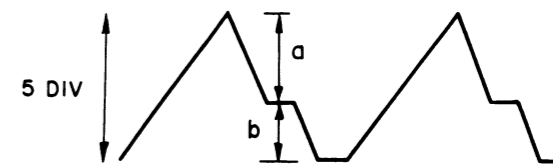

Fig. 11-5 Waveform
3. When a waveform like that shown in Fig. 11-5 is obtained, vary oscilloscope gain until a sawtooth wave with 5 div peak-to-peak is obtained. Then, referring to Fig. 11-5, adjust VR1 until a to b equals 3 to 2. (Make sure noise does not affect adjustment.)
4. When the 33 1/3 rpm adjustment is completed, adjust VR2 using the same procedure (item 2 and 3 above) for 45 rpm. Always adjust 33 1/3 first, and always adjust 33 1/3 if 45 rpm is to be adjusted even though it might be accurate.